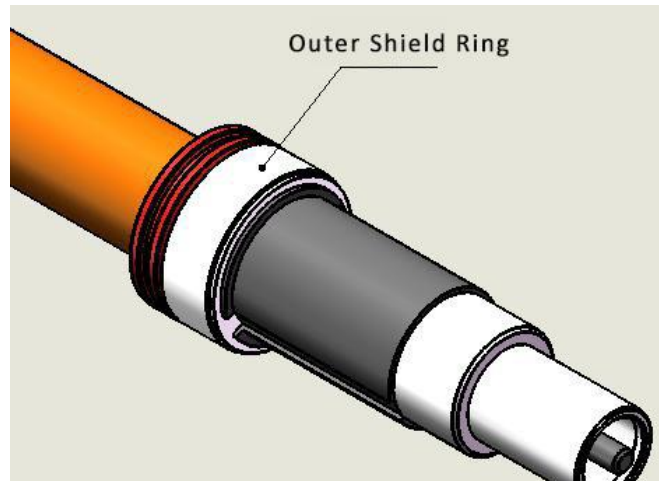

Fig. 11
4.1.5. The outer shielding ring is combined with the inner shielding ring and fully contacted with the shielding layer, as shown in Fig.11.